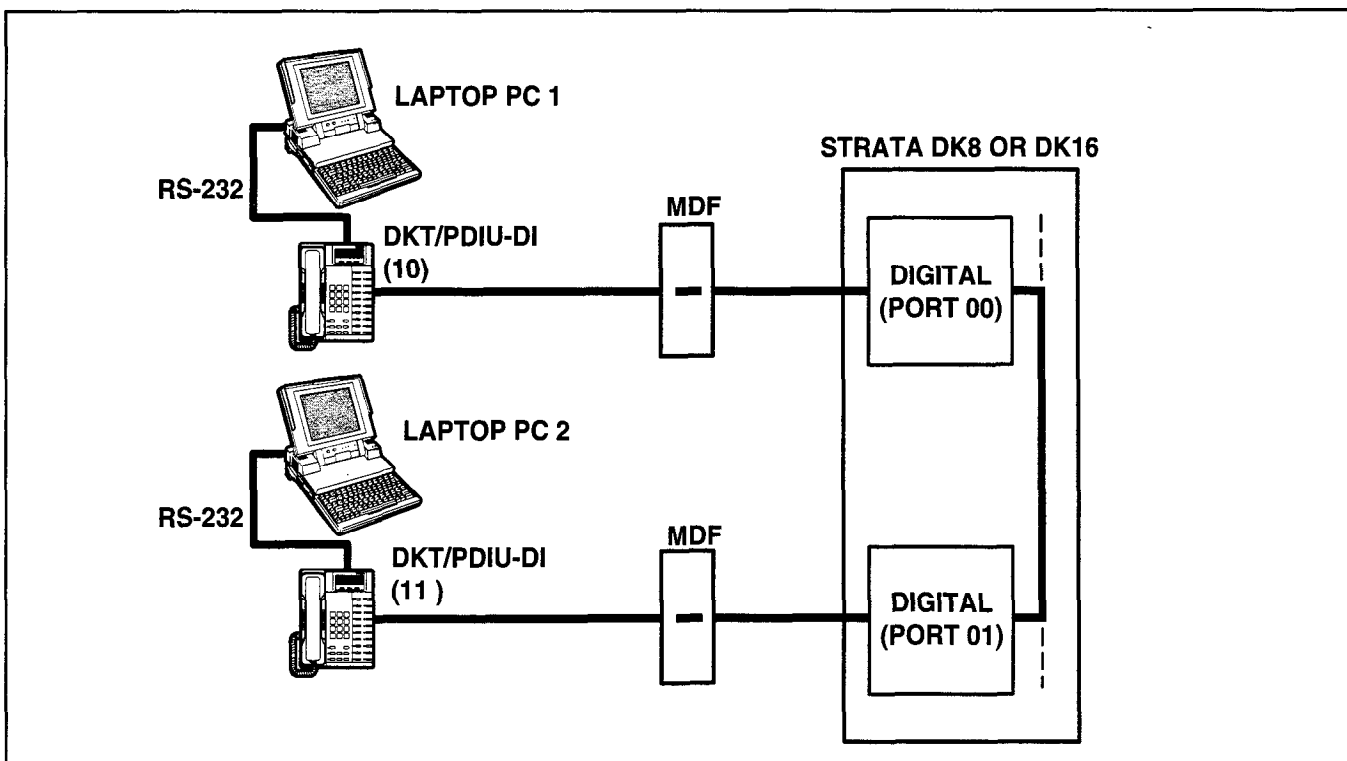

FIGURE 7-34
10.82 PC-to-PC Test Call Using AT Commands (see Figure 7-34)